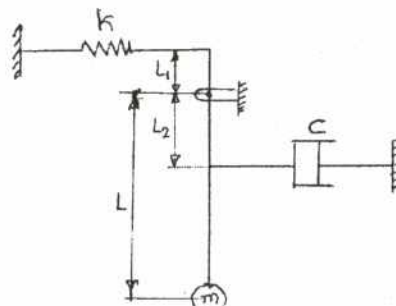

Fig.Q.3(b).
- b. A simple pendulum is pivoted at point O as shown in Fig.Q.3(b). Assuming small oscillations and neglecting the mass of the rod, find the damped natural frequency of the pendulum. (10 Marks)